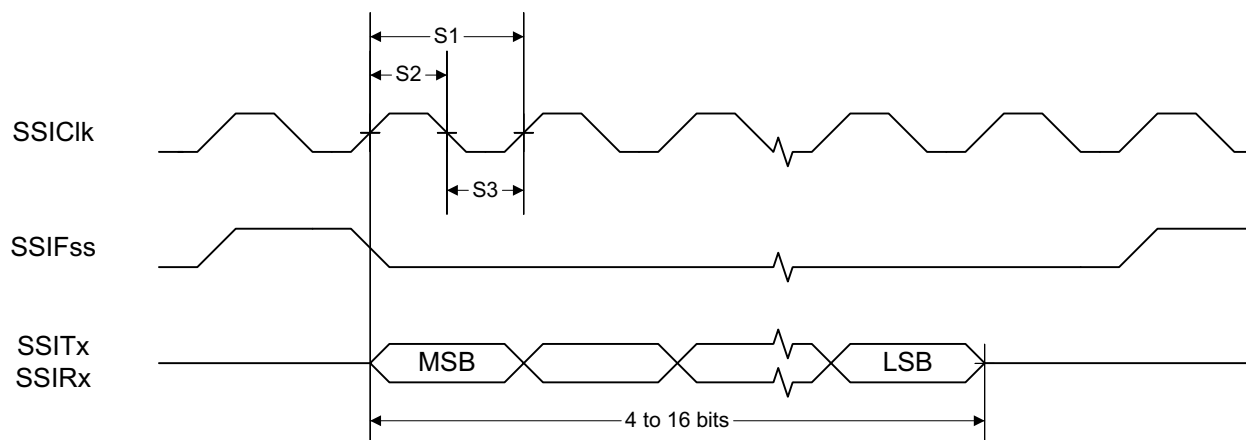

Figure 8-1. SSI Timing for TI Frame Format (FRF = 01), Single Transfer Timing Measurement
(1) Refer to SSI timing diagrams Figure 8-1, Figure 8-2, and Figure 8-3
(2) When using the TI-provided Power driver, the SSI system clock is always 48 MHz.